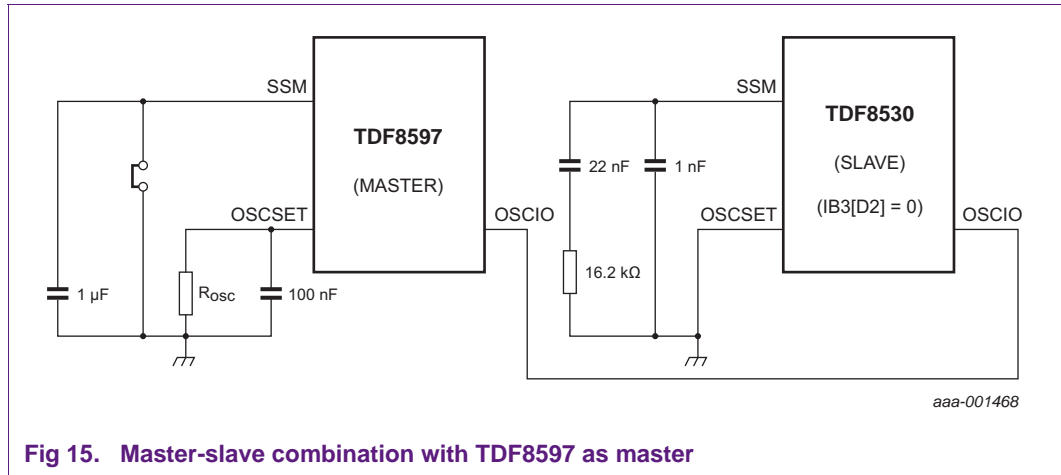

Fig 15. Master-slave combination with TDF8597 as master
- Use the TDF8597 or TDF8599A/B as the master device and the TDF8530 as the slave device. In this case, set the TDF8530, IB3[D2] to logic 0 so that the TDF8530 is set to accept the single PWM frequency at pin OSCIO. Also set the TDF8530 to PLL mode for optimum performance as shown in Figure 15.